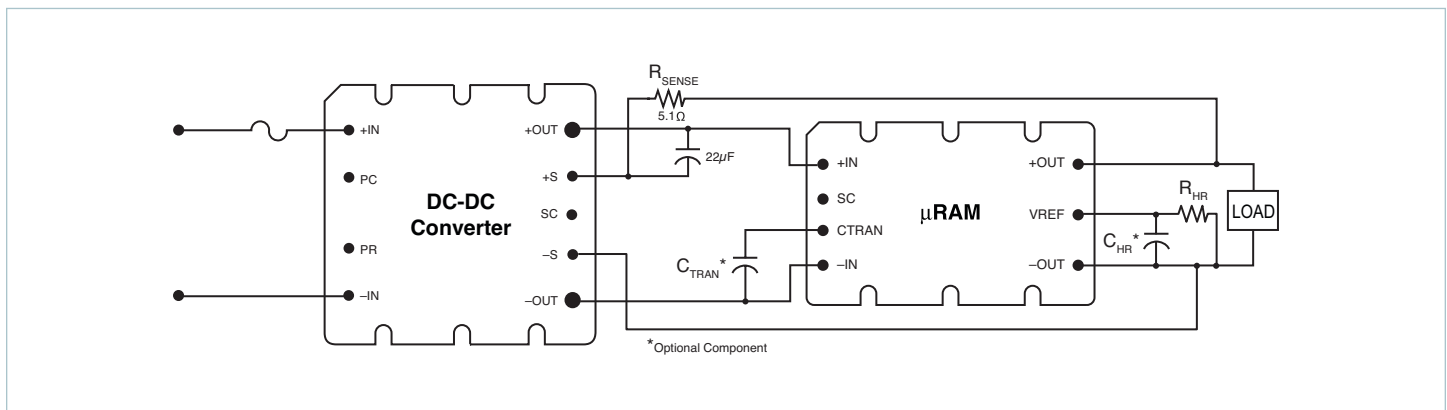
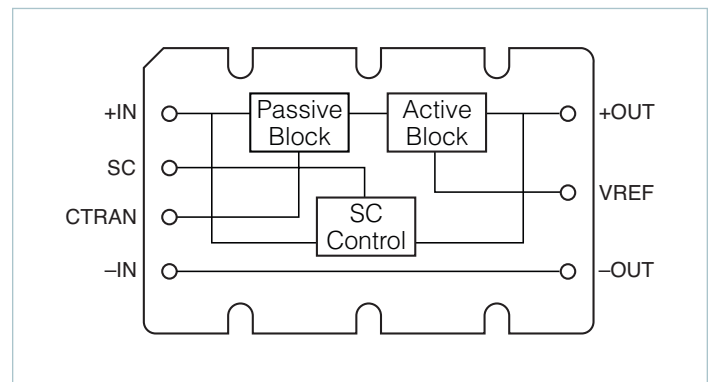

Figure 12.1a — Typical configuration using remote sense
Figure 12.2 — MicroRAM block diagram
The MicroRAM has an internal passive filter, (Figure 12.2) that effectively attenuates ripple in the 50kHz to 1MHz range. An active filter provides attenuation from low frequency up to the 1MHz range. The user must set the headroom voltage of the active block with the external  $R_{HR}$  resistor to optimize performance. The MicroRAM must be connected as shown in Figures 12.1a or 12.1b depending on the load-sensing method. The transient load current performance can be increased by the addition of optional  $C_{TRAN}$  capacitance to the  $C_{TRAN}$  pin. The low-frequency ripple attenuation can be increased by addition of optional  $C_{HR}$  capacitance to the  $V_{REF}$  pin as shown in Figures 12.3a and 12.3b.
**Figure 12.9** — V375A28C600B and  $\mu$ RAM; Input and output dynamic response no added  $C_{TRAN}$ ; 20% of 20A rating load step of 4A (10 – 14A);  $R_{HR}$  = 178k $\Omega$  (Configured as in Figures 12.1a and 12.1b)
**Figure 12.10** — V375A28C600B and  $\mu$ RAM; Input and output dynamic response  $C_{TRAN}$  = 820 $\mu$ F Electrolytic; 33% of load step of 6.5A (10 – 16.5A);  $R_{HR}$  = 178k $\Omega$  (Configured as in Figures 12.1a and 12.1b)
**Figure 12.11** — V375B12C250B and  $\mu$ RAM; Input and output ripple @50% (10A) load CH1 = VIN; CH2 = VOUT; VIN – VOUT = 305mV;  $R_{HR}$  = 80k $\Omega$  (Configured as in Figures 12.1a and 12.1b)
**Figure 12.12** — V300B12C250B and  $\mu$ RAM; Input and output dynamic response no added  $C_{TRAN}$ ; 18% of 20A rating load step of 3.5A (10 – 13.5A);  $R_{HR}$  = 80k $\Omega$  (Configured as in Figures 12.1a and 12.1b)
**Figure 12.13** — V300B12C250B and  $\mu$ RAM; Input and output dynamic response  $C_{TRAN}$  = 820 $\mu$ F Electrolytic; 30% of load step of 6A (10 – 16A);  $R_{HR}$  = 80k $\Omega$  (Configured as in Figures 12.1a and 12.1b)
**Figure 12.14** — V48C5C100B and  $\mu$ RAM; Input and output ripple @ 50% (10A) load CH1 = VIN; CH2 = VOUT;  $V_{IN} - V_{OUT} = 327mV$ ;  $R_{HR} = 31k\Omega$  (Configured as in Figures 12.1a and 12.1b)
**Figure 12.15** — V48C5C100B and  $\mu$ RAM; Input and output dynamic response no added  $C_{TRAN}$ ; 23% of 20A rating load step of 4.5A (10 – 14.5A);  $R_{HR} = 31k\Omega$  (Configured as in Figures 12.1a and 12.1b)
**Figure 12.16** — V48C5C100B and  $\mu$ RAM; Input and output dynamic response  $C_{TRAN} = 820\mu F$  Electrolytic; 35% of load step of 7A (10 – 17A);  $R_{HR} = 31k\Omega$  (Configured as in Figures 12.1a and 12.1b)